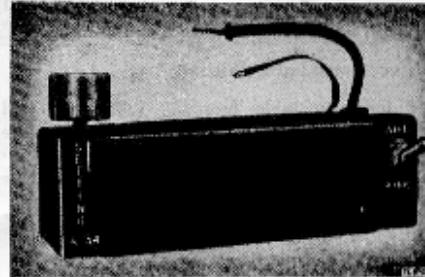

Figure 63. (Added.) Phantom Antenna A-34, front view.
Phantom Antenna A-34 is designed for use with Radio Set SCR-694-C. When necessary to adjust or test the transmitter of the radio set during periods of radio silence, the phantom antenna can be used in place of the regular antenna. The phantom antenna (fig. 63) is self-contained in a metal box which measures approximately 6 $\frac{1}{2}$ inches by 3 inches by 2 inches.
c. Connect the ground lead of the phantom antenna (braided conductor in fig. 63) to the frame of the radio set. This can be done by removing one of the mounting screws above the crystal cover (fig. 2), passing the screw through the lug on the end of the ground lead, and then replacing and tightening the screw.